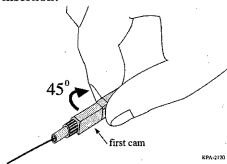

Figure 7
**3.18** While gripping the other cam and the center section of the CamSplice, rotate the first cam  $45^\circ$  clockwise to lock the first fiber into place. Rotation of the cam secures the fiber to provide a positive stop for the second fiber (Figure 7).